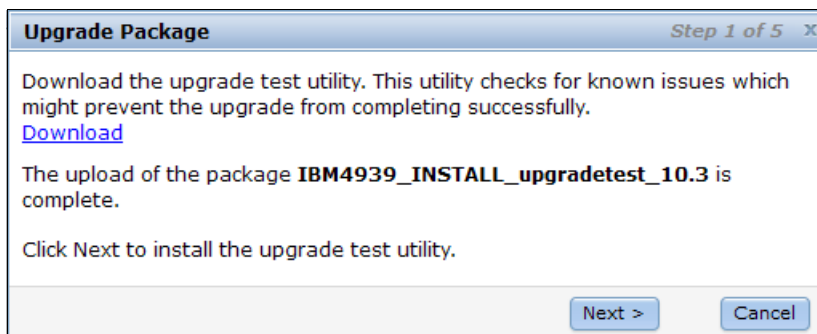

Figure 13-18 Step 1 of 5 - Upload upgrade test utility to the system
5. After the download completes, click **Next** to upload the upgrade test utility to the system, as shown in Figure 13-18.